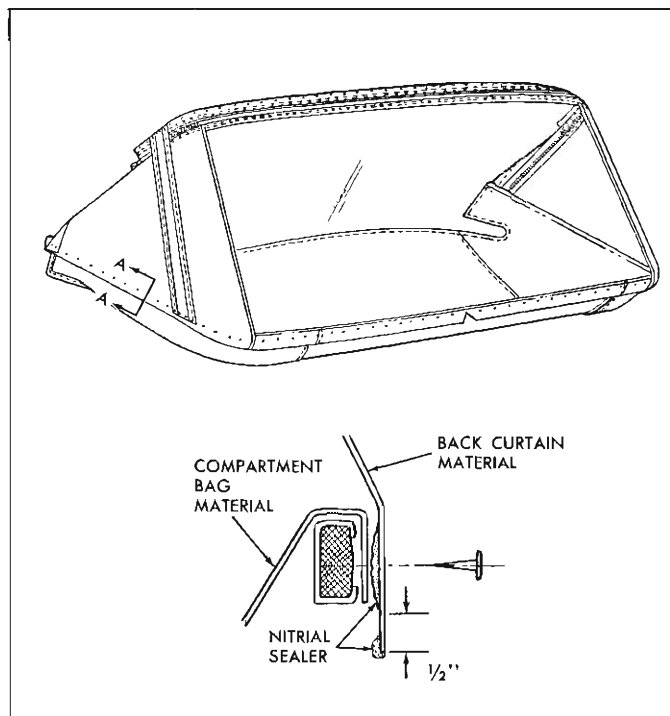

Fig. 80—Back Curtain Sealing
3. Place back curtain window assembly on clean covered work bench with exterior (vinyl) surface of back window valance facing down. (Large pliable back window must be handled carefully to avoid possible damage due to scratches, abrasions, etc.). Apply bead of convertible top sealer (nitrile) along lower edge of back curtain material in area which will be tacked to rear and rear quarter trim stick (see view "A-A" in Figure 80).
4. Apply bead of convertible top sealer (nitrile) along lower selvage edge of back curtain material (fig. 80).
**NOTE:** Notch in back curtain vinyl at lower edge indicates centerline of back curtain assembly (fig. 80). In addition, back curtain lower edge should extend 1/2" below lower edge of trim sticks.
7. Tack curtain to rear and rear quarter trim sticks. Turn forward edge of material rearward to form a water barrier (fig. 80).
25. After desired fit of top material has been obtained, remove trim sticks with attached top material from top compartment well. Back curtain should extend 1/2" below trim sticks on "B", styles (fig. 80).